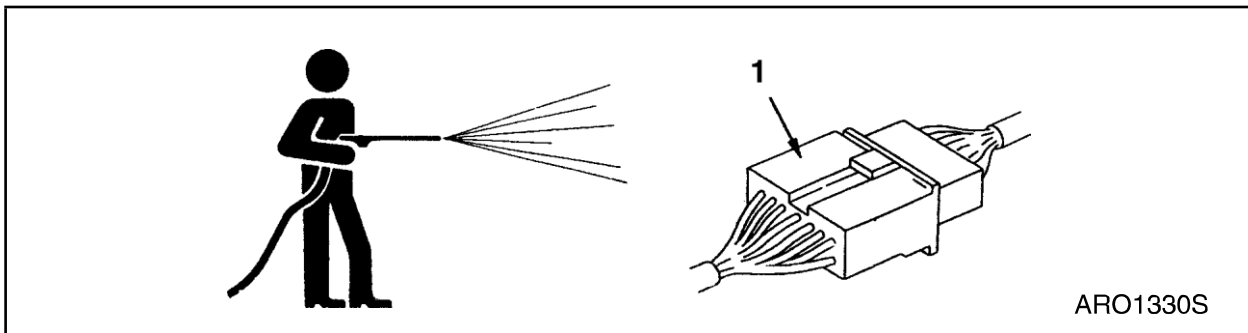

Figure.23
- Do not spray water directly on electrical components (sensors, connector) (1, Figure 23). If water gets into the electrical system, there is danger that it will cause defective operation and malfunction.